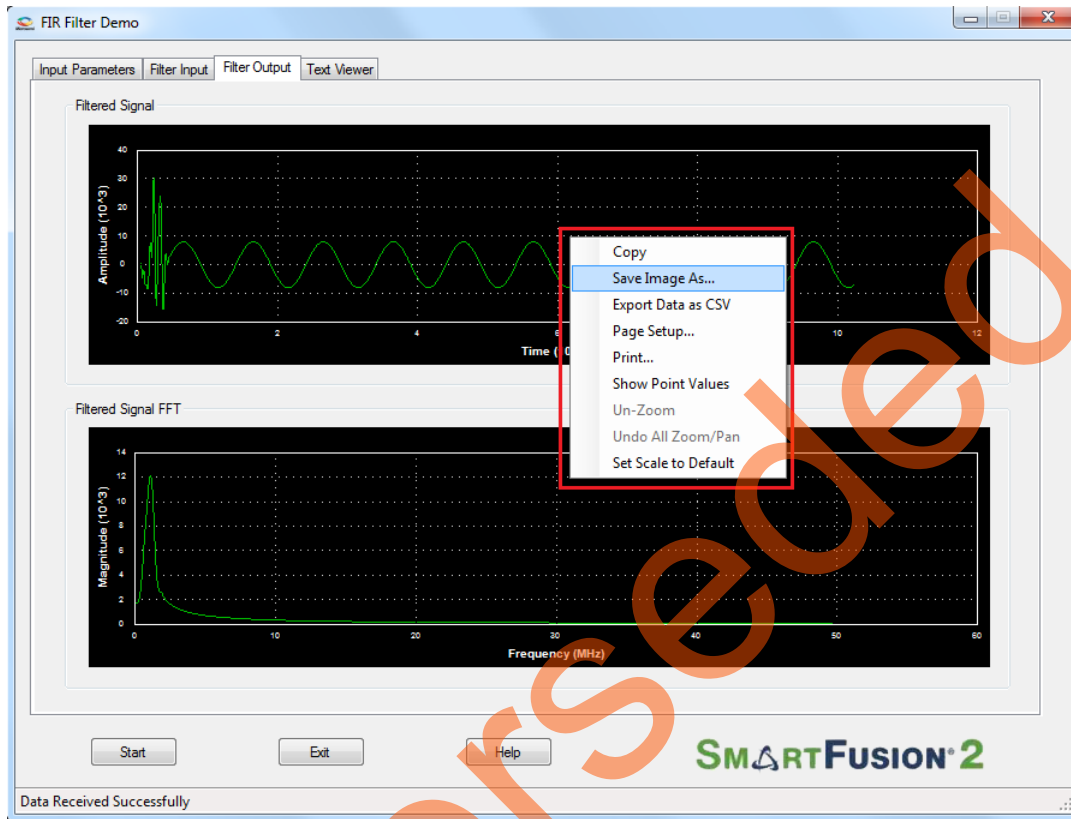

Figure 18 • Filtered Signal: GUI options
9. Right-click on the window, it shows different options. Refer to Figure 18. The data can be copied, saved, and exported to the CSV plot for analysis purpose. Page setup, print, show point values, zoom, and set scale are set to default.